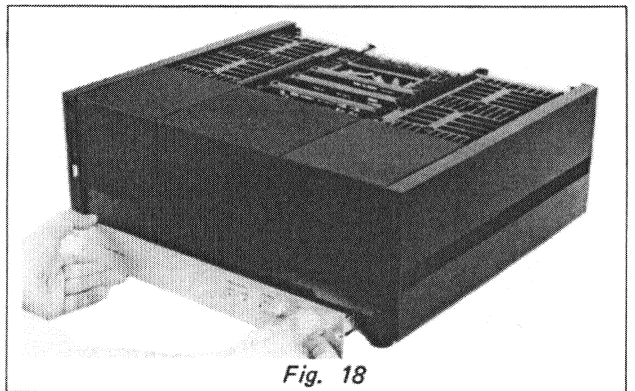

Fig. 18
- b. Pull off the front panel as shown in Fig. 18. At this time be careful not to tilt the panel.